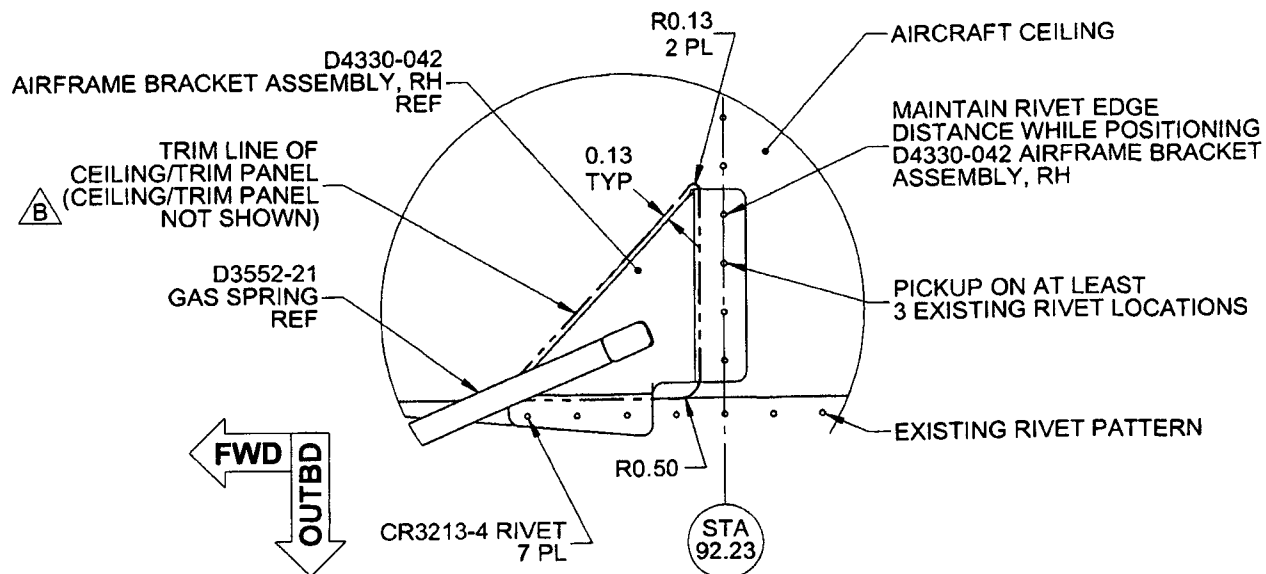
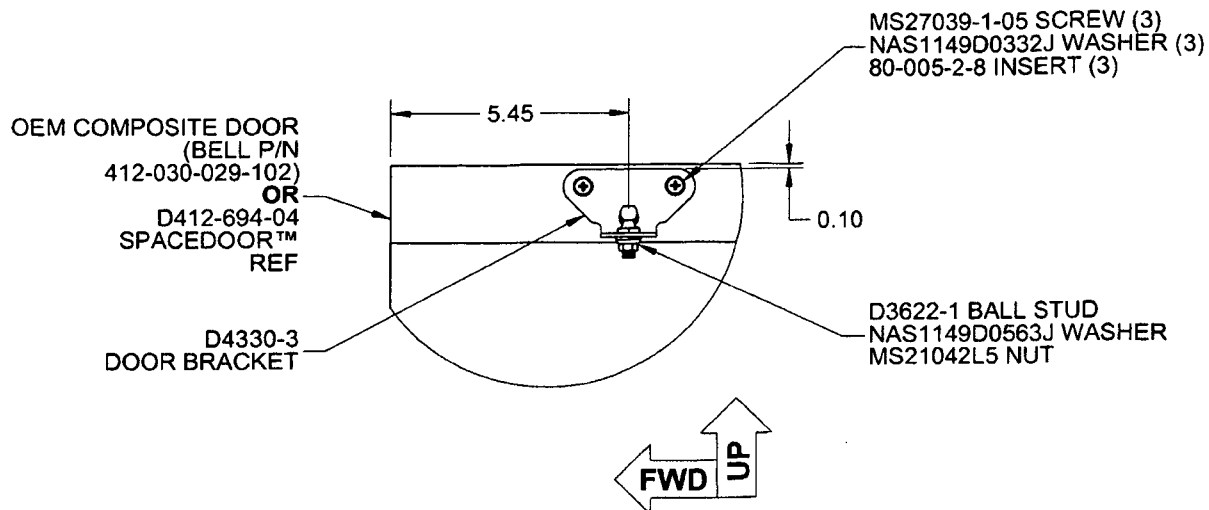
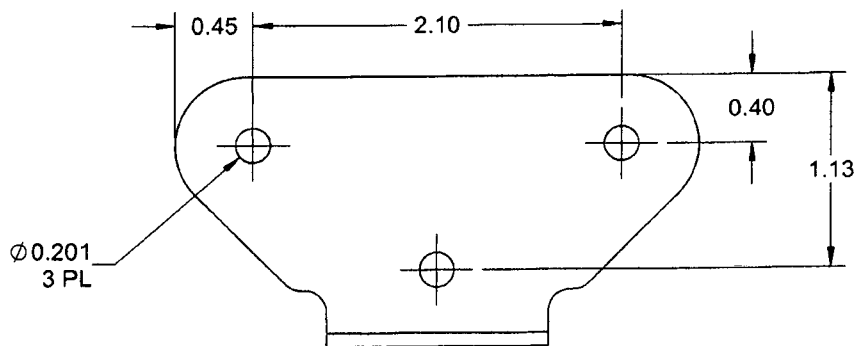

FIGURE 3: LOCATION OF D4330-042 AIRFRAME BRACKET ASSEMBLY
FIGURE 6: LOCATION OF D4330-3 DOOR BRACKET
FIGURE 7: LOCATION OF D4330-3 DOOR BRACKET MOUNTING HOLES
8. Locate D4330-042 Airframe Bracket Assembly, RH on the aircraft ceiling per Figure 3. Transfer drill #30 ($\phi 0.129$ ") holes from the ceiling to D4330-042. Deburr holes.
11. Apply a thin layer of Proseal 890 (or equivalent) to faying surface of the D4330-042/-3 brackets. Install the D4330-042 Airframe Bracket Assembly, RH using CR3213-4 rivets as shown in Figure 3. Install D4330-3 Door Bracket using hardware as shown in Figure 6.
12. Pre-install the ceiling or trim panels that were removed in Step 1 and transfer mark contour of D4330-041 or -042 as shown in Figure 3 (SHT 6). Remove ceiling or trim panels and perform cutout to clear D4330-041 or -042. Touch-up finish of ceiling or trim panels cutout area in accordance with aircraft maintenance manual and re-install any ceiling or trim panels.
8. Locate D4330-042 Airframe Bracket Assembly, RH on the aircraft ceiling per Figure 3. Transfer drill #30 ($\phi 0.129"$) holes from the ceiling to D4330-042. Deburr holes.
9. Locate D4330-3 Door Bracket on the Spacedoor™ per Figure 6. Using Figure 7 as a guide for the approximate locations of the mounting holes, drill 3x #7 ($\phi 0.201"$) holes in D4330-3 and the inner door skin. Enlarge holes in Spacedoor™ inner skin to 9/16" ($\phi 0.5625"$).
11. Apply a thin layer of Proseal 890 (or equivalent) to facing surface of the D4330-042/-3 brackets. Install the D4330-042 Airframe Bracket Assembly, RH using CR3213-4 rivets as shown in Figure 3. Install D4330-3 Door Bracket using hardware as shown in Figure 6.
13. Install a D3622-1 Ball Stud on the D4330-3 Door Bracket using hardware specified in Figure 6.